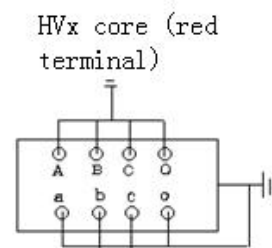

Figure 13 Connection of transformer
(2) Primary winding to secondary winding and ground
- A. See Figure 13